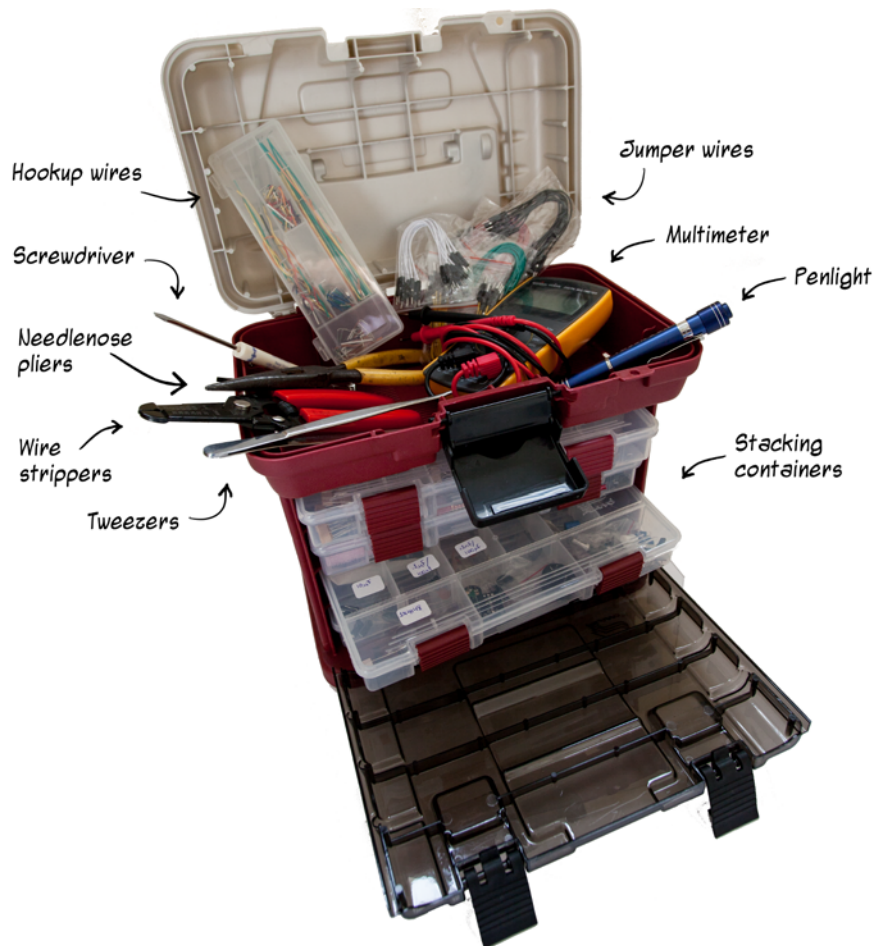

Figure 1.24 This compact tackle box has space in the top for tools, and storage for components in stacking, removable containers.
**STORING YOUR ELECTRONIC COMPONENTS** As you start building projects, you’ll end up with a lot of small parts. You can find compartmentalized storage boxes or drawer units at hardware and hobby stores. Boxes and cases designed for fishing lures can make especially handy containers for electronic parts because their compartments are small and their dividers fit snugly (figure 1.24).